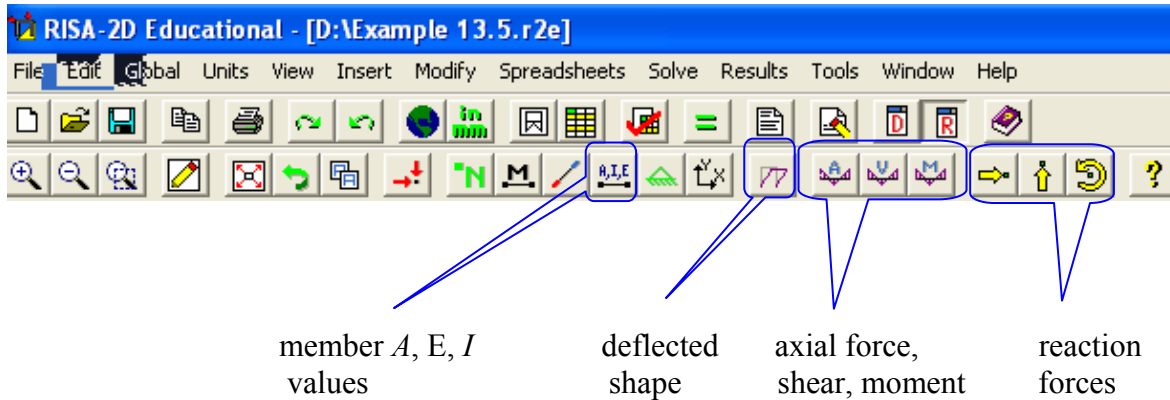
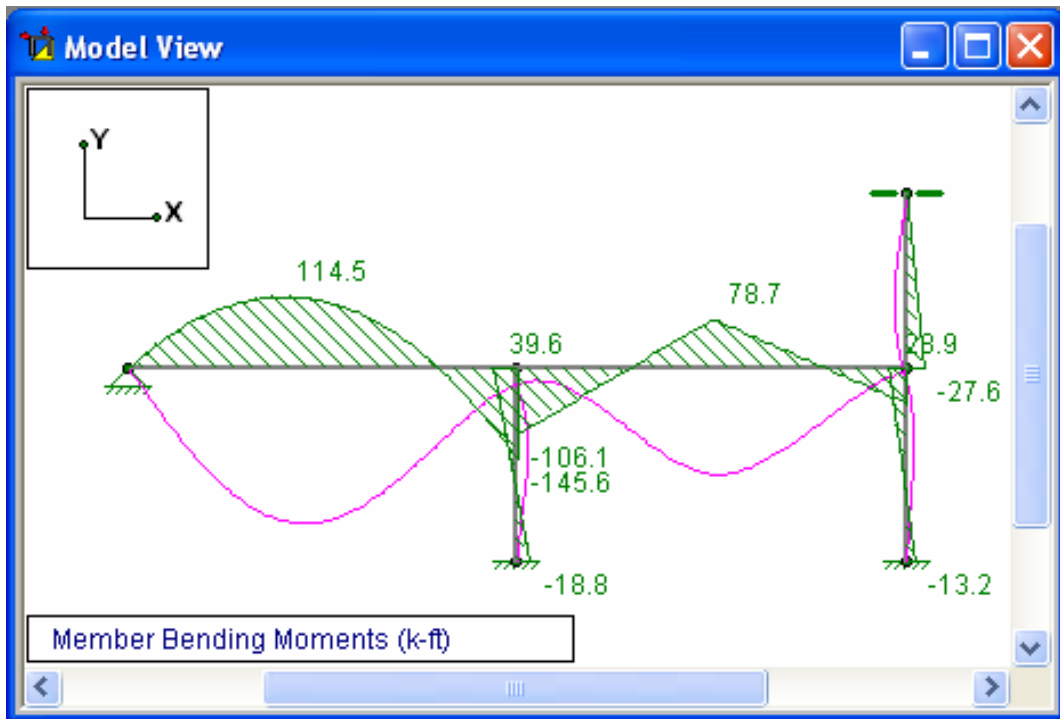
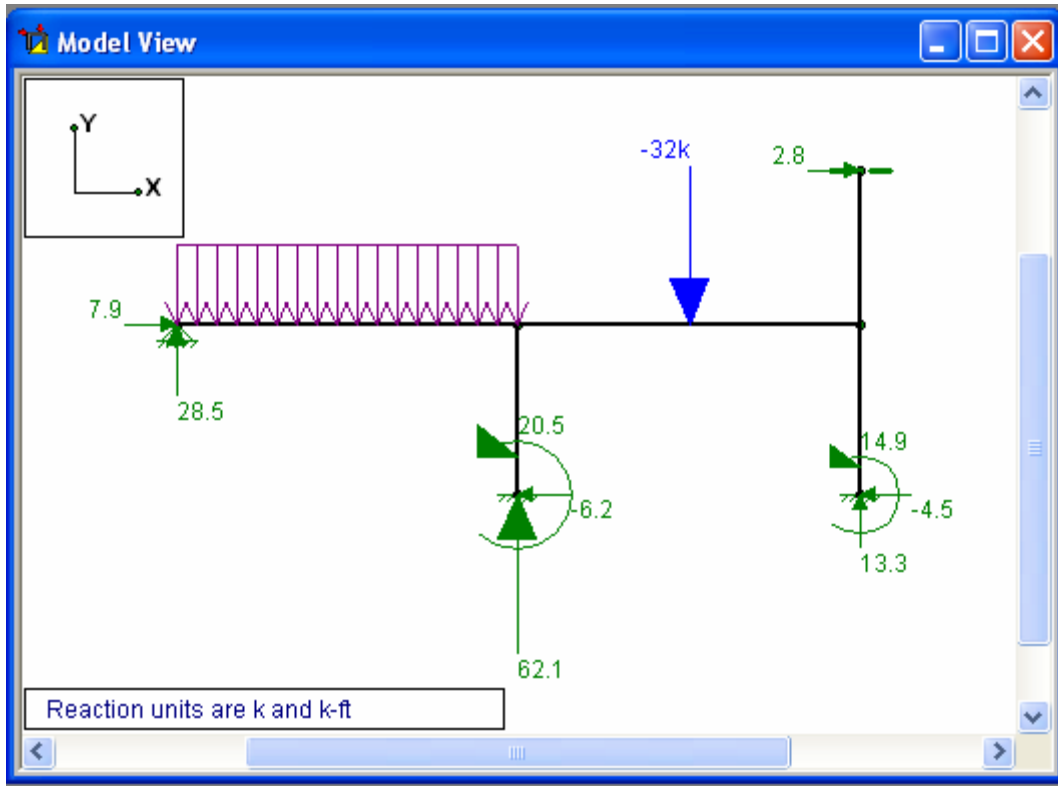

Figure 29
Figure 30
Figure 31
- (7) Analysis results can also be viewed graphically in the **Model View** window by clicking on the icons below the manual bar (see Figure 29). (If this window does not appear, click **View** from the manual bar and select **New View** to create one.) For example, Figure 30 shows the moment diagrams, reactions, and the deflected shape of the structure. Figure 31 depicts the reactions together with the applied loads.